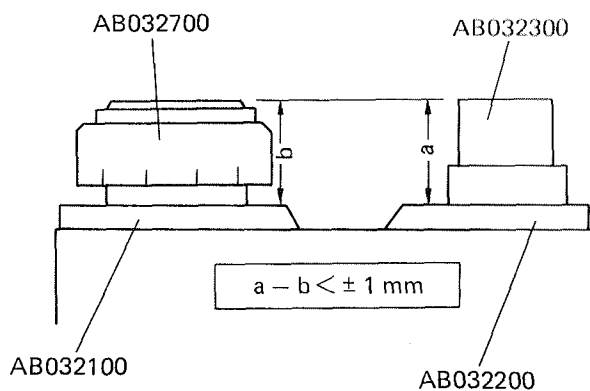

Fig. 11-23
- h) If the STANDARD is not met, repeat adjustment in step 11-2 above and check once again. (See Fig. 11-23)